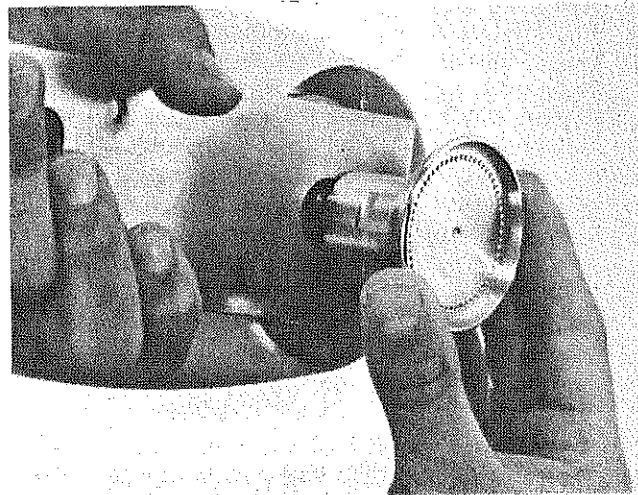

FIG. 3
4. To remove atomizer bell, place RPM-419 wrench over flats of shaft to lock shaft. Unscrew atomizer bell by hand turning CCW (Fig. 3). If the atomizer bell is tight and can't be removed by hand, use a second RPM-419 wrench to place over the wrench flats of the atomizer bell.